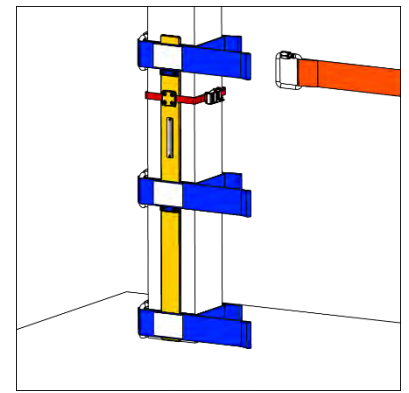

Figure 56
- Begin with the Top Rail Strap. Connect the Orange Rail Strap and the Blue Noose Belt Strap using the 4" Quick Link. (Fig. 56)